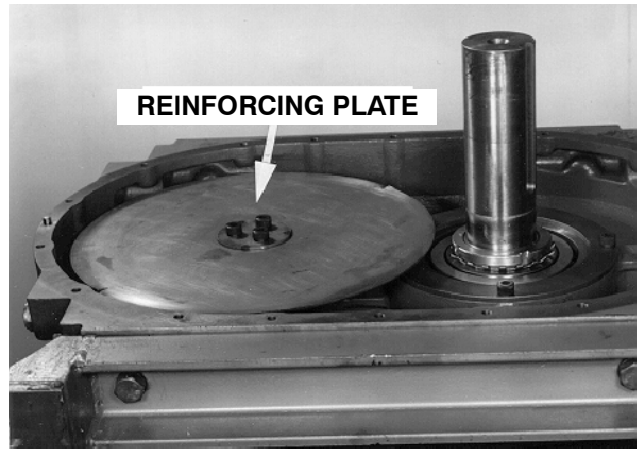

FIGURE 20
20. Bend the ear of the lockwasher (35, 36) into the slot of the nuts (33, 34) on the shaft extension. Oil the bearings generously. Install the oil slinger (6) with three (3) "Nylok" type screws (61). The oil slinger is mounted on the shaft with the reinforcing plate up, FIGURE 20.